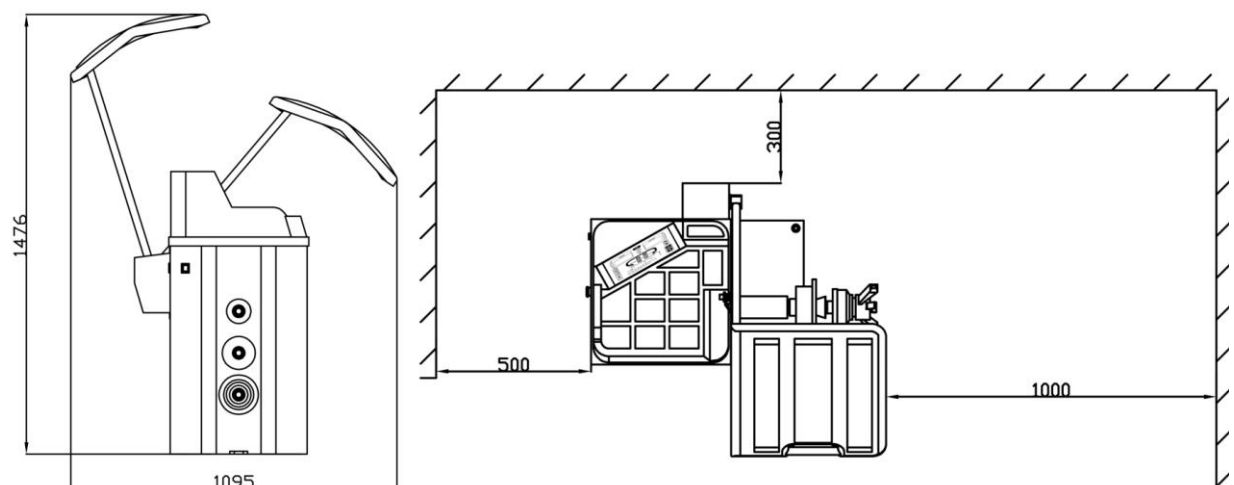

Fig.4 Use Space Requirement
- Space of installation should meet the requirement described by Fig.4 and its size